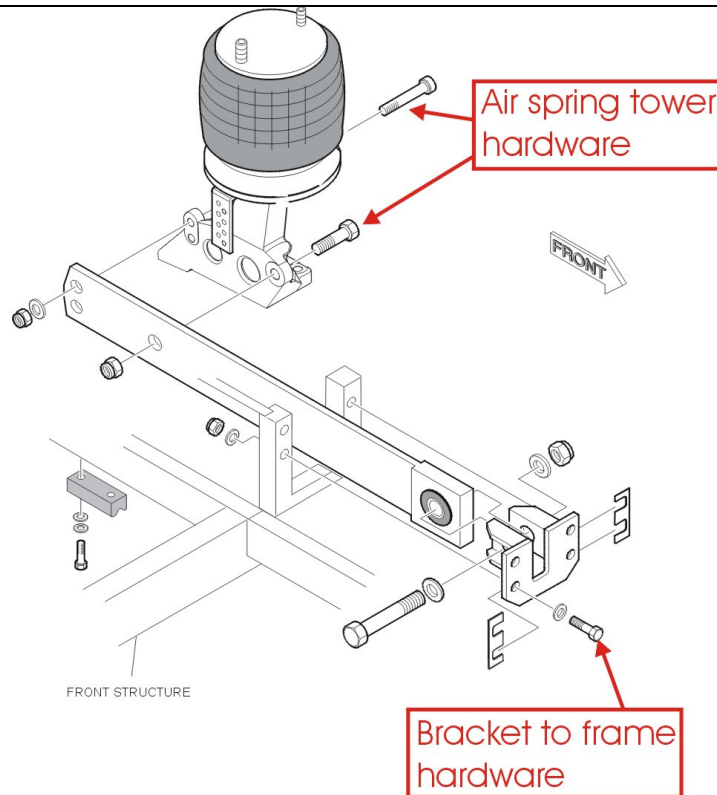

Figure 2: Streetside radius rod hardware.
- b. Remove hardware supporting radius rod to air spring tower. See Figure 2. Set all hardware aside for reuse.
- c. Remove hardware retaining radius rod bracket to frame. See Figure 2. Set all hardware aside for reuse.
- i. Reinstall hardware retaining the radius rod mounting bracket to the frame. Torque hardware to 75 ft-lbs with Never-Seez. See Figure 2.